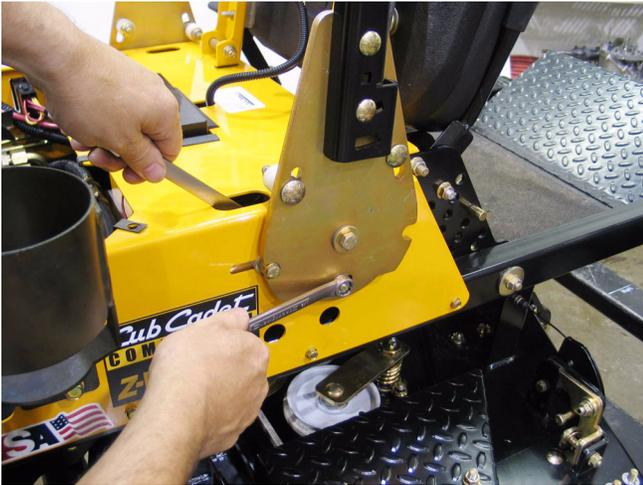

Figure 20.4
- 20.4. Disconnect the steering link rod using a pair of 1/2" wrenches. See Figure 20.4.